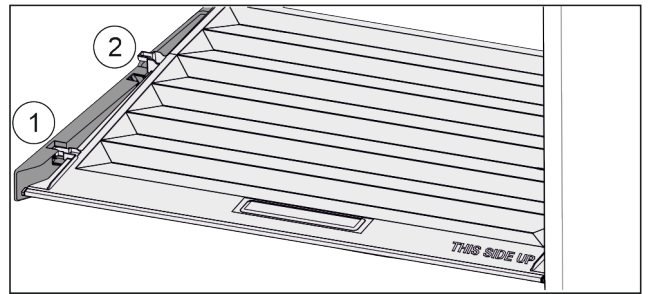

Fig. 104
- Pull the lid up at the front to the opening in the retaining parts Fig. 104 (1).
- Lift from the back and pull it up and out Fig. 104 (2).